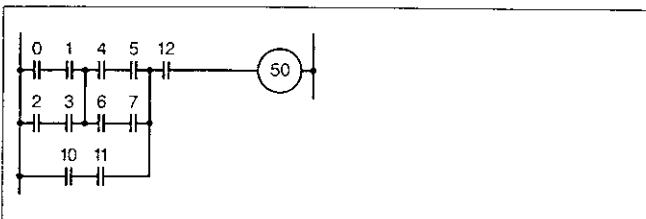

Figure 14.8
- Use the ladder diagram as an aid for program preparation (example figure 14.8).